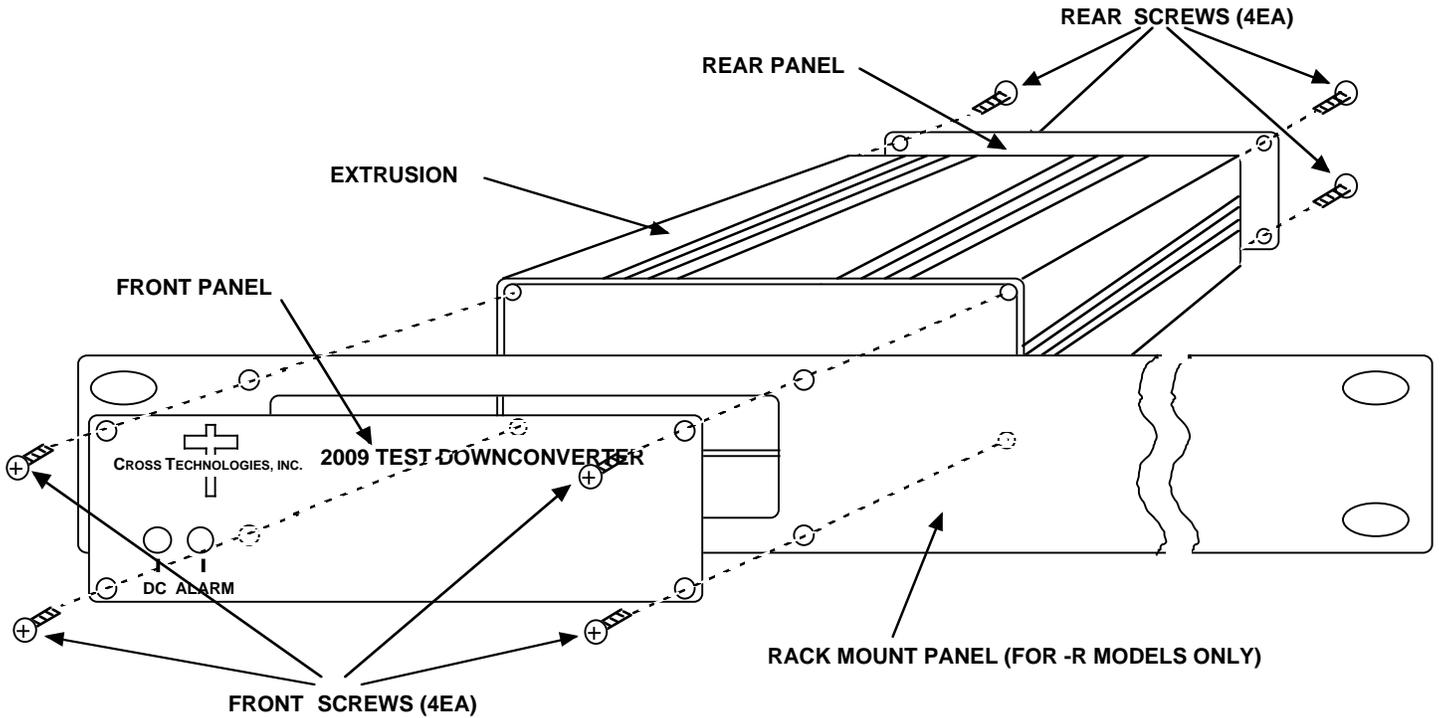

FIGURE 2.1 Model 2009-8487P Assembly (-R option shown)
The 2009-8487P is packaged in an aluminum extrusion. The **-R option** is mounted on a 1 3/4" X 19" panel that can be mounted to a rack using the 4 holes at the ends (See Figure 2.1).
2. Remove four (4) **rear panel screws** (see Figure 2.1).
5. Install four (4) **rear panel screws**.